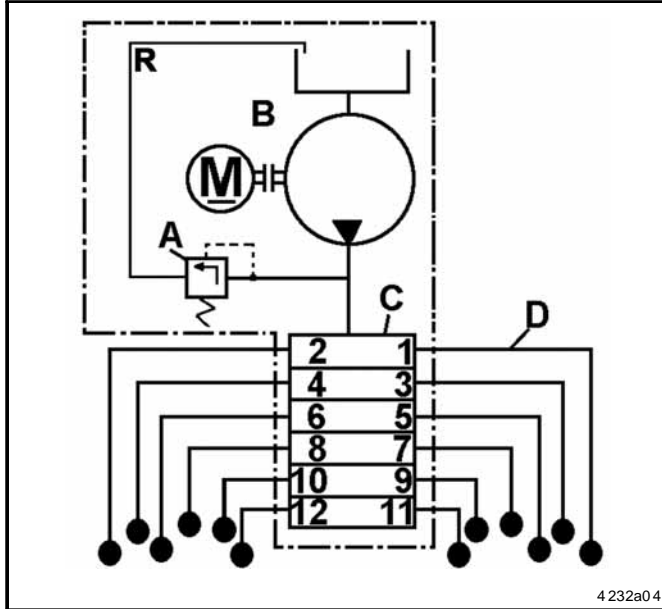

Fig. 15-1 QLS-Beispiel
- ➔ Disconnect all feed lines D (fig. 15-1) of the metering device one after the other. If oil shows under pressure the blockage is located in the line of outlet 3 or in the connected bearing point.